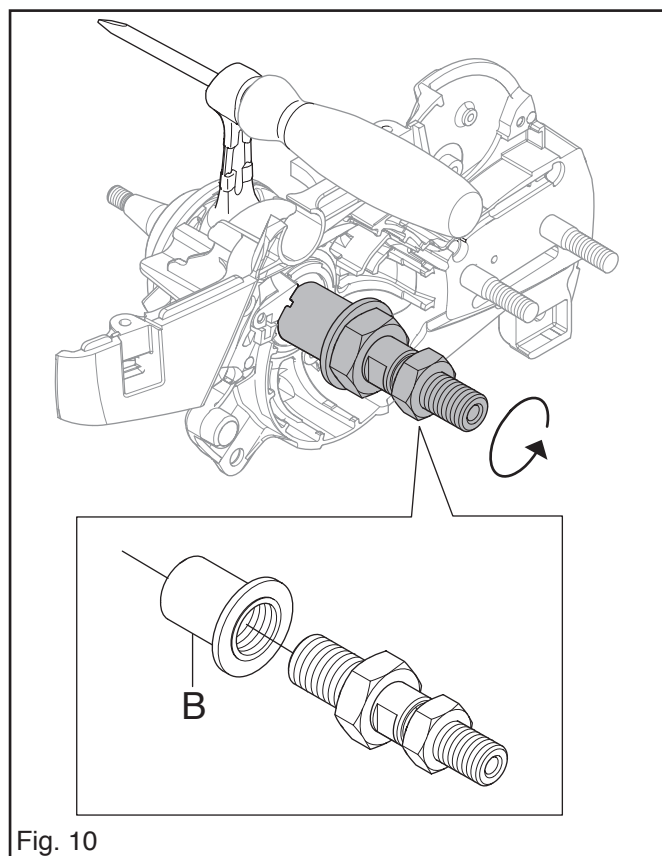

Fig. 10
3. Use tool 502 50 30-20. Use back side of sleeve (B) and pull the crankshaft into the clutch side's crankcase half. See fig. 10. Pull until the crankcase shoulder mates with the bearing.